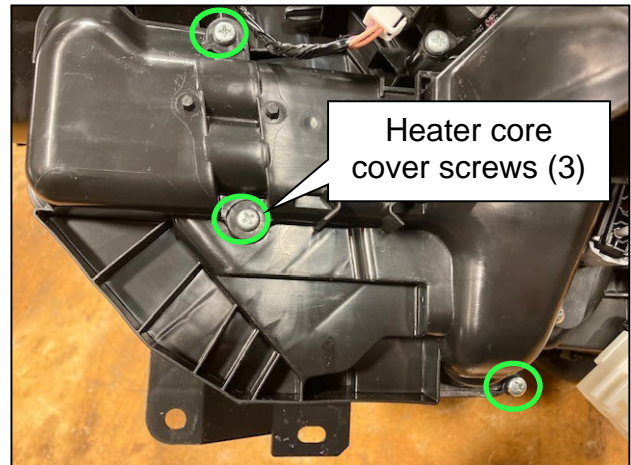

Figure 9
7. Reinstall the heater core cover using the three (3) screws (Figure 9).